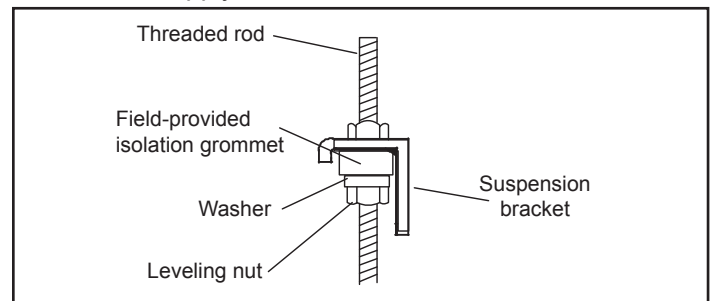
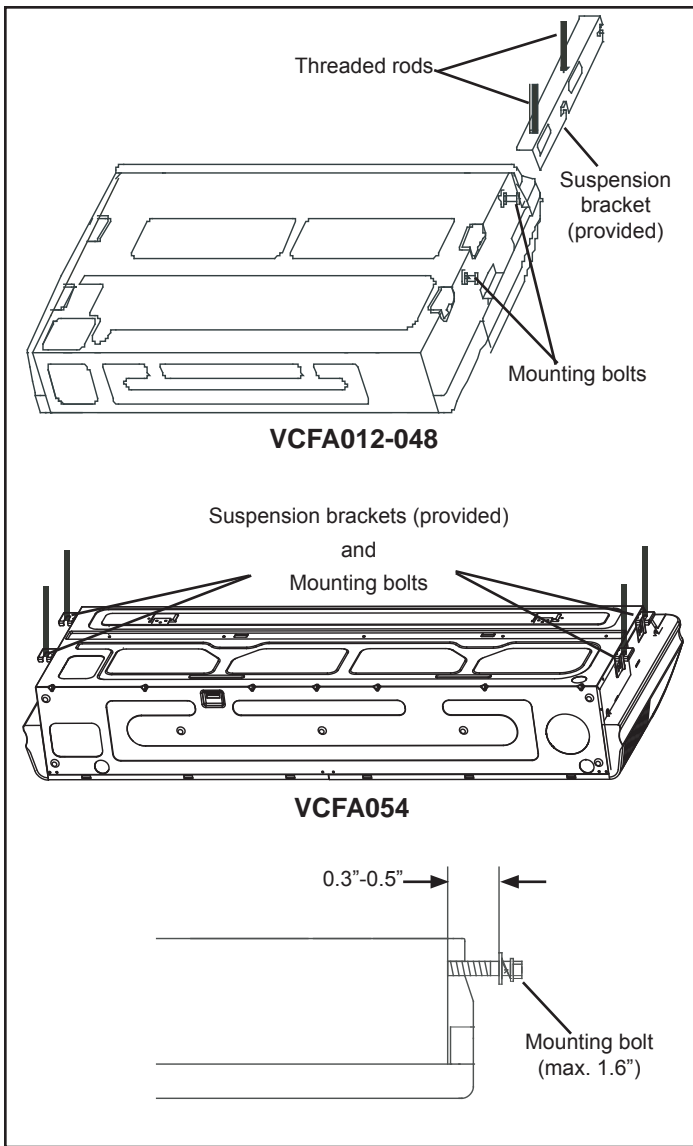

Figure 6. Locate Suspension Bracket on Threaded Rod
Figure 7. Suspend Unit
- VCFA012-048 units:** Afix the two long suspension brackets provided in accessory package to the previously installed threaded rods. See figure 6. **VCFA054 units:** Afix the four short suspension brackets to the unit body. See figure 7. Install the VCFA054 unit directly onto the threaded rods as instructed in step 8 and then proceed to step 6. Step 9 will not apply to VCFA054 installation.
- Slide a washer and then a nut onto each rod below each suspension bracket. Use the leveling nut (beneath suspension brackets) to adjust the unit base to the correct height. Remove the electrical tape holding the upper washers and nuts in place and tighten each of the four nuts above the brackets down onto the brackets. This will ensure that the unit remains level. See figure 6.
- Securely tighten the mounting bolts on both sides. See figure 7.
- Once snug, continue another half-turn on each nut which should create a leak-free joint. A torque wrench may be used to tighten flare nuts using table 2 recommendations. See figure 7. **Do not over-tighten a flared joint. Flared connections should always be accessible and must be insulated to prevent condensation.**